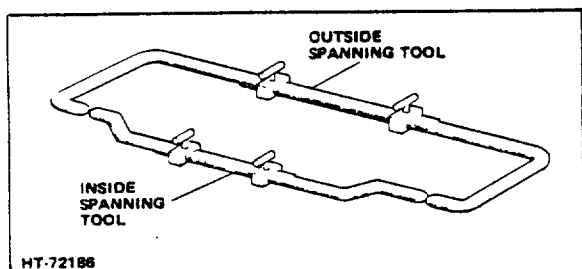

Figure 2. Setting Outside Spanning Tool
2. Set outside spanning tool (Fig 2) to match inside spanning tool. Lock tool in position.